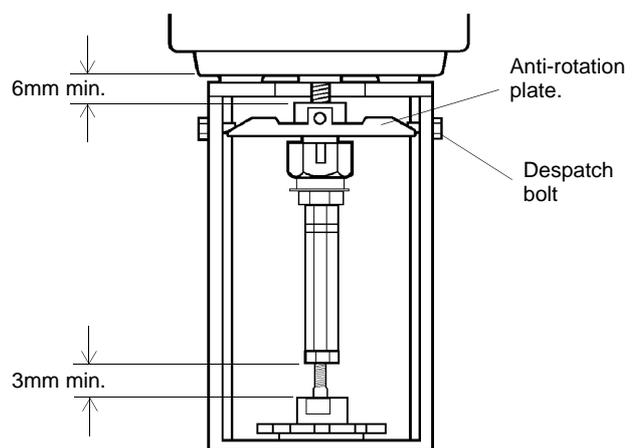

Fig.3
- Apply a control signal to drive the coupling nut downwards until the valve is fully open; check that the anti-rotation plate does not travel beyond the despatch bolt holes and that a 3mm gap (minimum) exists between locknut 'B' and the valve bonnet (Fig.3).
- Apply a control signal to drive the coupling nut upwards until the valve is fully closed; check that the anti-rotation plate does not travel beyond the despatch bolt holes and that a 6mm gap (minimum) exists between the top of the anti-rotation plate and the main body of the actuator (Fig.3).